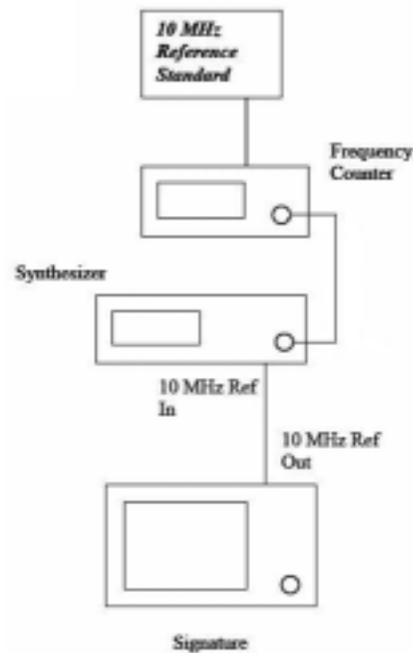

Figure 4-2. Reference Oscillator Calibration Setup, Method 2
- Step 1.** Set up the equipment as shown in Figure 4-2 above.